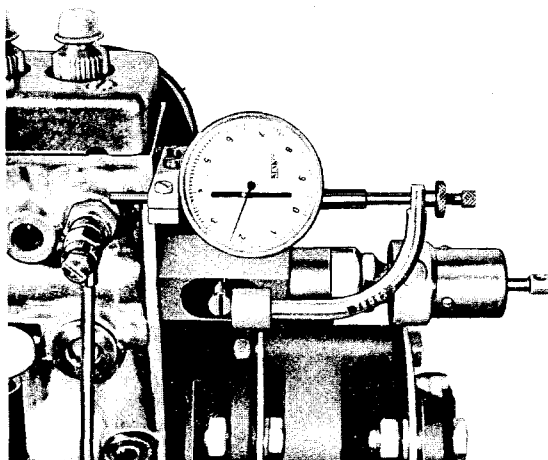

Fig.6
6. Fit the dial indicator 13, screw off the measuring point. Screw up the magnet 7 on the clamp 3 and then fit the clamp on the dial indicator with retaining screw 2, fig. 6.